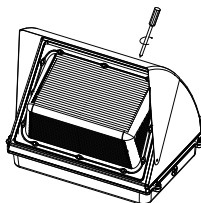

Figure 6
6. Please subject to the installation steps according to the actual products purchased. Follow the below additional installation steps if the product is equipped with areflector (Take the SWP01 series for example). When metal reflector is equipped, pls lock it on the luminaire with screws. (Figure 6)